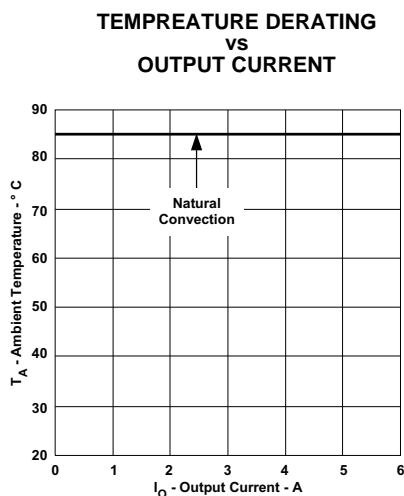

Figure 4.
- (2) SOA curves represent the conditions at which internal components are at or below the manufacturer's maximum operating temperatures. Derating limits apply to modules soldered directly to a 4 in. x 4 in. double-sided PCB with 1 oz. copper. Applies to Figure 4.